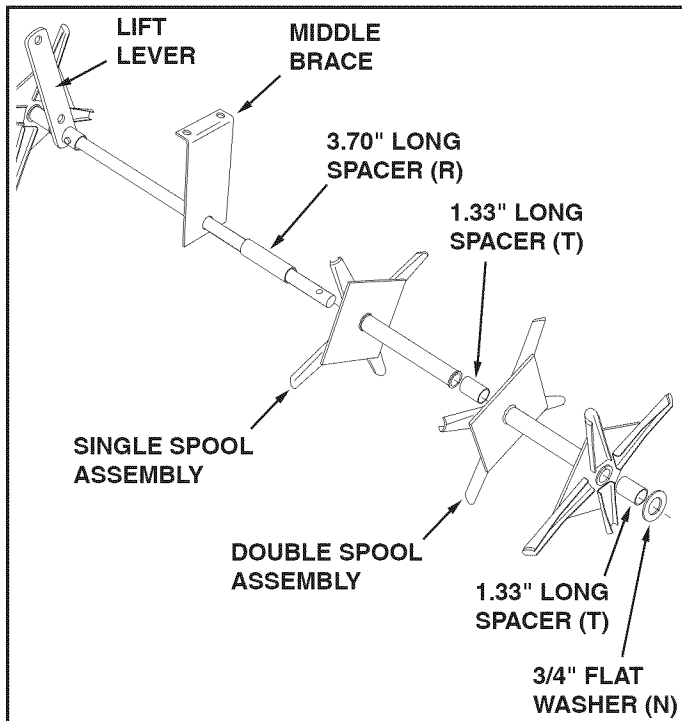

FIGURE 4
- Assemble the middle brace onto the **long end** of the shaft with the bent end of the brace facing the lift lever. Next assemble a 3.70" long spacer (R), a single spool assembly, a 1.33" long spacer (T), a double spool assembly, a 1.33" long spacer (T) and a 3/4" flat washer (N) onto the **long end** of the shaft. See figure 4.